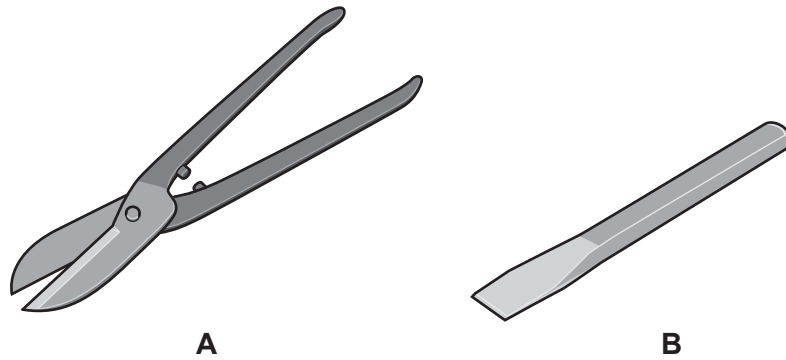

Fig. 3.1
- 3 Fig. 3.1 shows two tools, **A** and **B**, that can be used to cut sheet metal.
Give the name of the tools labelled **A** and **B** in Fig. 3.1.